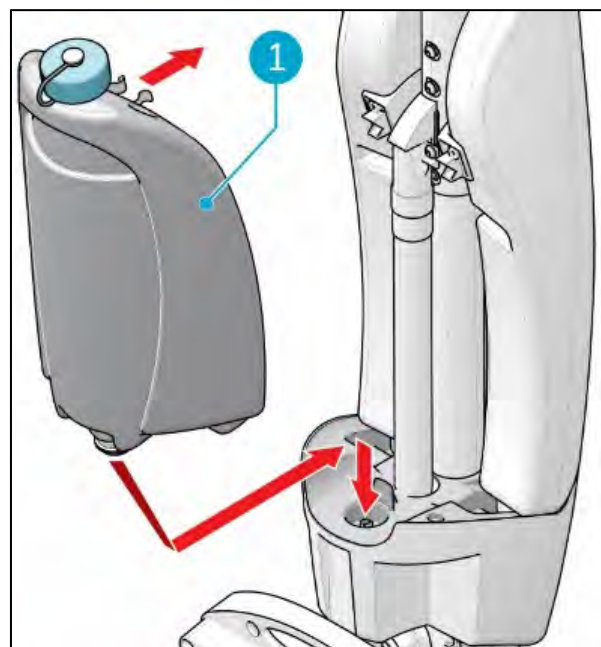

Figure 14
5. Put the tank on the i-mop XL Basic with the valve first (Figure 14, pos 1).